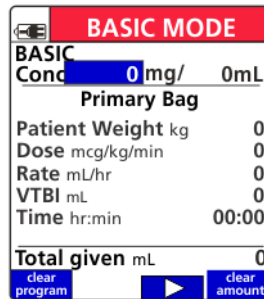

Figure 127. BASIC Concentration Unit Amount Selection Screen.
8. Enter a unit amount and press **OK**. See Figure 127.